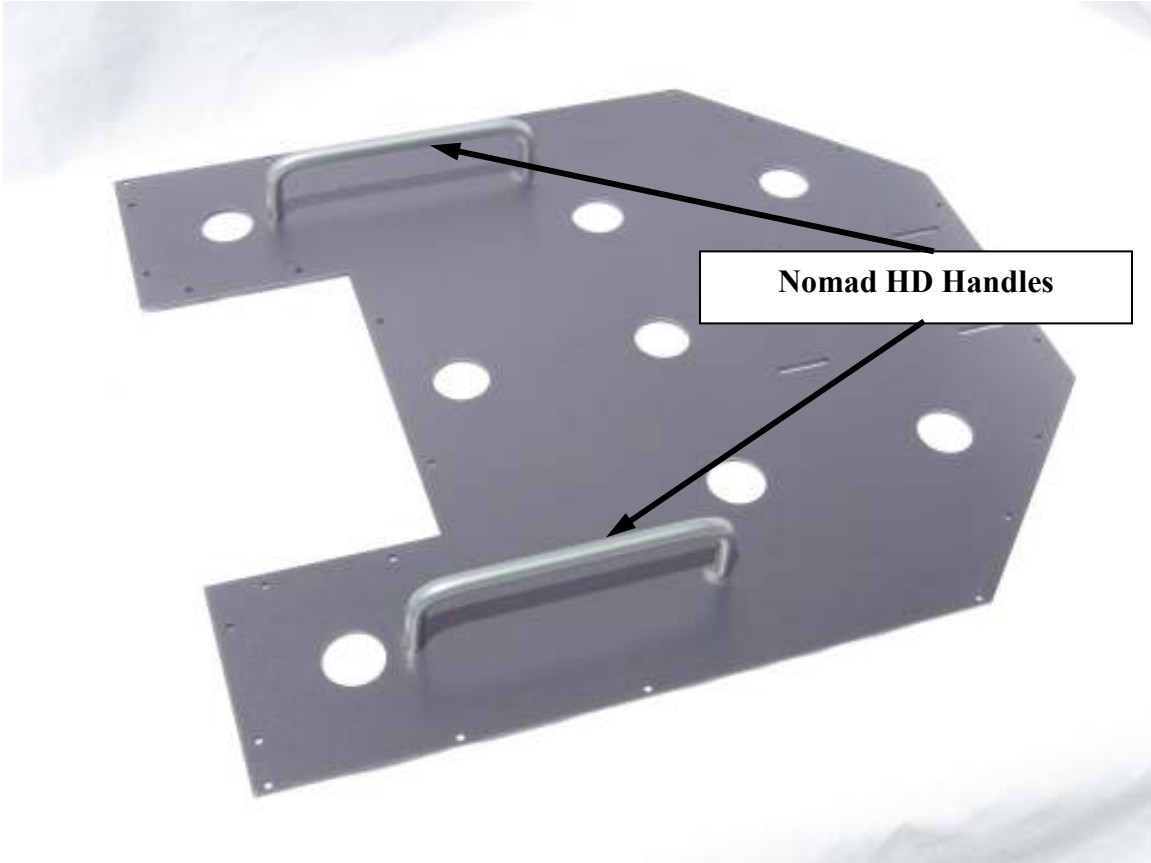

Figure 14
Using (4) M4, 6mm screws, install the Nomad HD Handles to the Top Cover Plate as shown in figure 14.